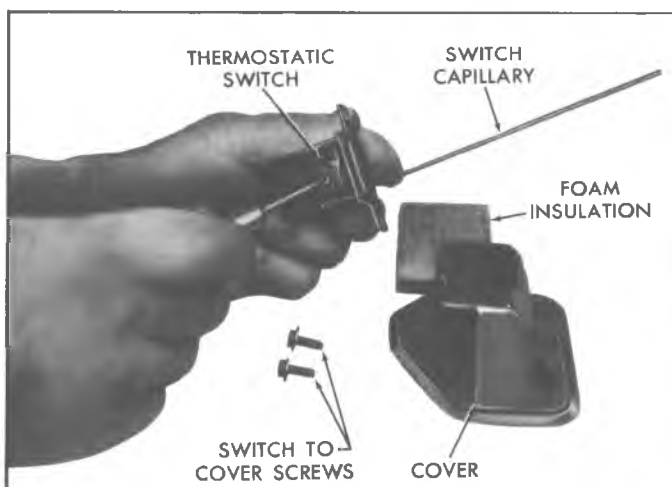

Fig. 53--Thermostatic Switch Adjustment
5. If the outlet temperature was higher than the prescribed temperature at the end of each cooling cycle, turn the adjusting screw a partial turn counterclockwise (fig. 53). If the outlet temperature was lower than prescribed temperature, turn the adjusting screw clockwise.